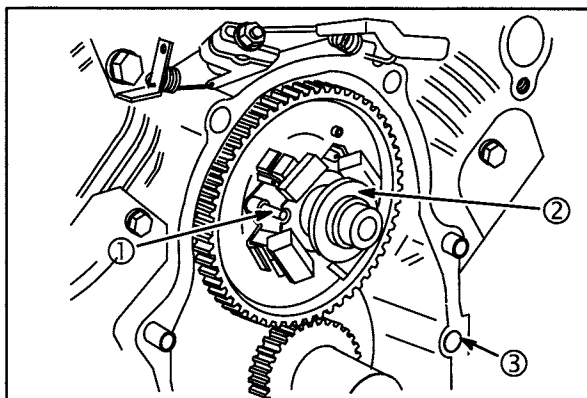

Fig. 11
1. Assemble governor spool to camshaft, **Fig. 11**.
- a. Make sure that spool (2) engages flyweights and slot on spool fits over locating pin (1).
- b. Install new O-ring (3) in cylinder.